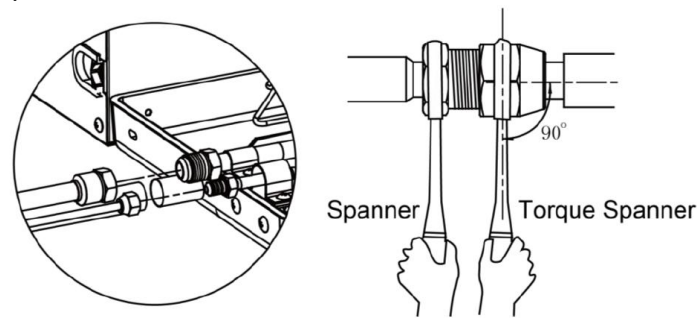

Fig.13
(1) Conform to the following principles during piping connection: Connection pipeline should be as short as possible. The height difference between indoor and outdoor units should be as short as possible. Keep number of bends as little as possible. The radius of curvature should be as large as possible.
(2) Weld the connection pipes between indoor and outdoor unit. Please strictly conform to the requirements for welding process. Rosin joints and pin holes are not allowable.
(3) When laying the pipes, be careful not to deform them. The radius of bending parts should be more than 200mm (7-7/8inch). The pipes cannot be repeatedly bent or stretched, otherwise the material will get harden. Do not bend or stretch the pipe over three times at the same position.
(4) Please use a torque wrench to connect union nut on the indoor unit. See Fig.13.